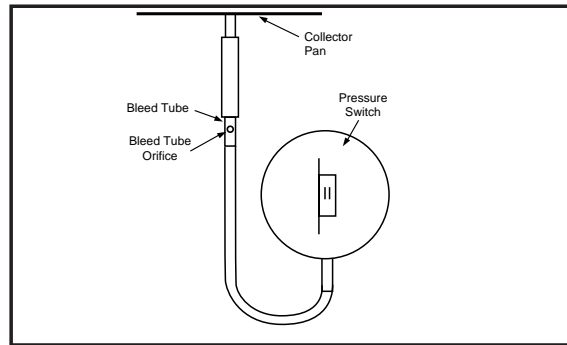

Figure 17. *RK Bleed Tube Installation
2. Remove the rubber tubing from the pressure switch sensor tube and the collector pan sensor tube. Cut the tubing approximately 3" from one end. Select the appropriate dilution cover plate as noted with vent kit #903196. Insert the bleed tube into the tubing. **Do not cover the hole in the bleed tube.** Place the tubing assembly back on the pressure switch sensor tube and collector pan sensor tube. (See Figure 17.)